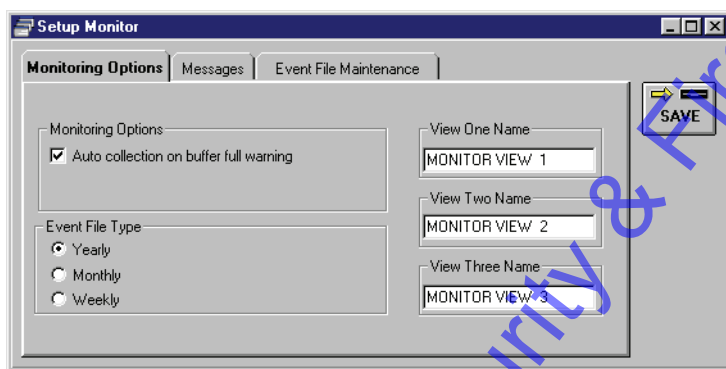

Figure 5-1: Setup Monitor and Events Window
2. Click on the **Monitoring Options** tab. The Setup Monitor window appears (see Figure 5-1).
2. To disable auto-collection, click on the check box beside the "Auto-collection on buffer full warning" option in the "Monitoring Options" field. When the box does not have a check mark, auto-collection is disabled (see Figure 5-1 on page 3 of this section). This is the default value.